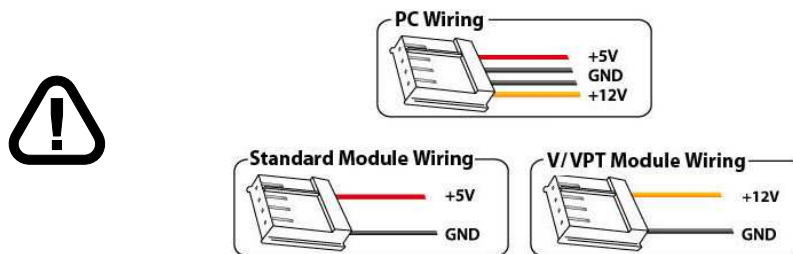

Figure 8: PC vs Matrix Orbital Display Module Wiring
- First, you will want to make sure that you are using the correct power connector. Standard floppy drive power cables from your PC power supply may fit on the Power/Data Connector however they do not have the correct pin out as can be seen in *figure 8 on page 4*. Matrix Orbital supplies power cable adapters for connecting to a PC, which can be found in the *Accessories Section on page 1*.